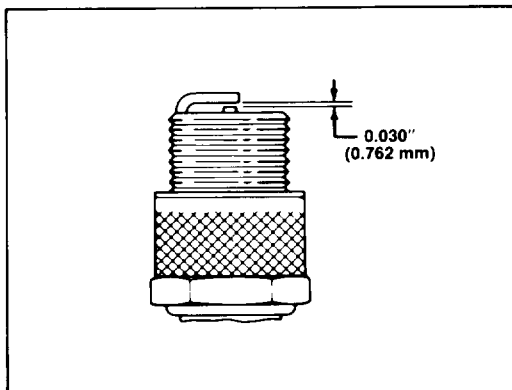

Figure 13
3. Set air gap at 0.030" (0.762 mm) (Fig. 13). Install correctly gapped spark plug and gasket seal. Tighten plug firmly to 15 ft-lb (20.4 N-m).